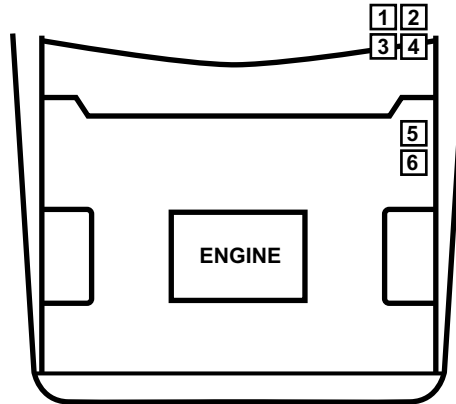

Figure 15-3 Justy common connector locations
- “Justy common connector locations” on page 145 (Table 15-3, Figure 15-3)